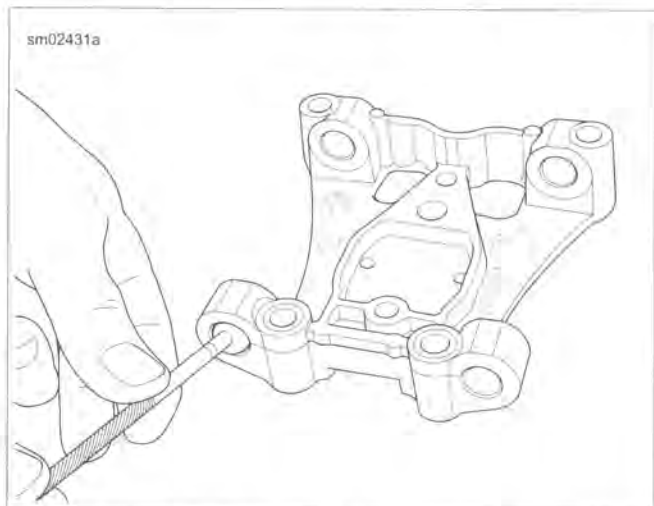

Figure 3-27. Checking Support Plate Bore
1. See Figure 3-27. Measure the inside diameter of the rocker arm support plate bore.